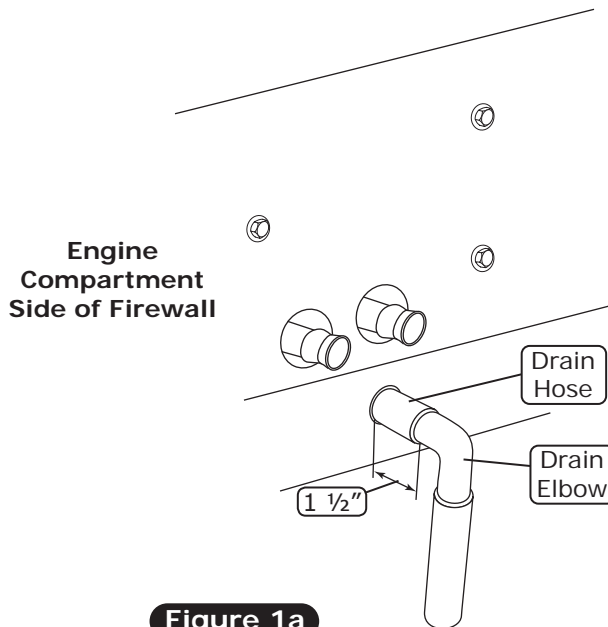

Figure 1a
4. On the engine compartment side of the firewall, measure and cut the drain hose 1 1/2" from the firewall. Install a 90° elbow onto the drain hose and attach another piece of drain hose to the other end (See Figure 1a, below).